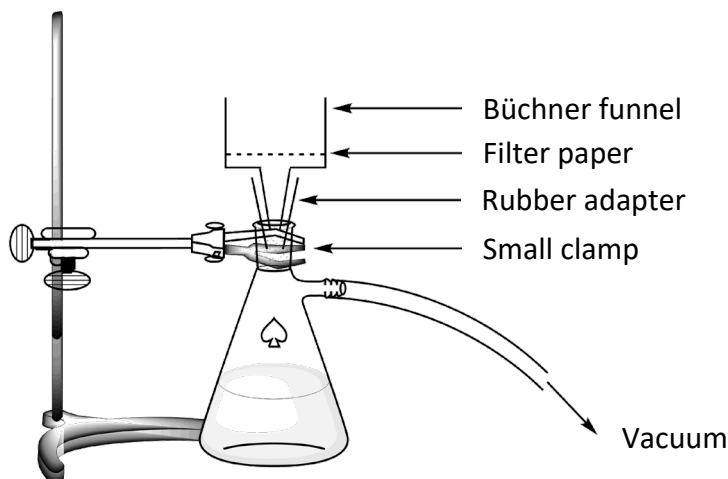

Figure 2. Setup for the vacuum filtration
7. Set up a vacuum filtration apparatus (see Figure 2) using a Büchner funnel, a filter paper and a suction flask. Ensure that you have secured the set-up to the laboratory stand. Raise your HELP card. A lab assistant will come and assist with setting up the vacuum.